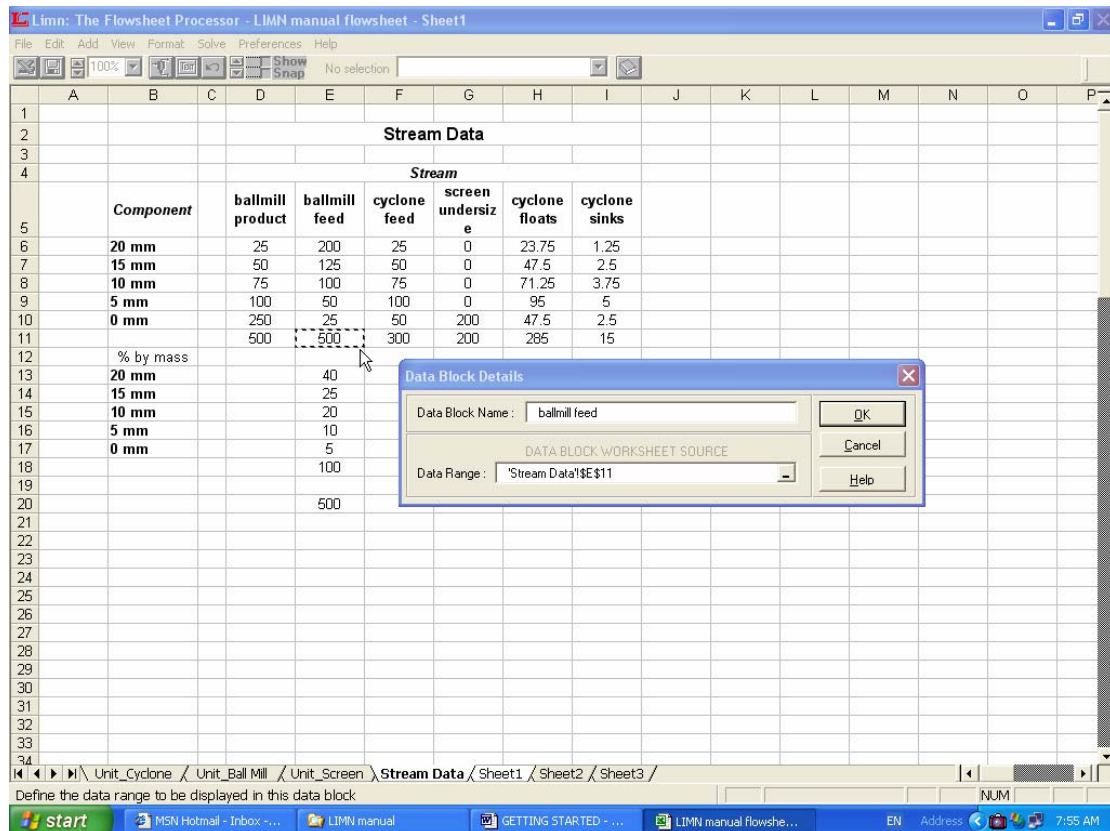

Figure 18: Datablock dialogue box
6.5 Type the “=” sign in the Data Range dialogue box, then select the Stream Data sheet and click on the cell required, see figure 18 below.